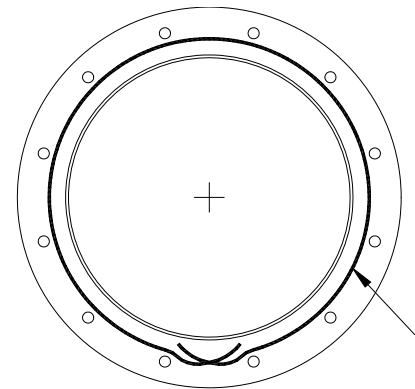

Figure 10: Sealant tape on Vacuum Seat
5. Apply PTFE sealant tape around the inside hole pattern of the vacuum seat [18] (Figure 10). Tape should be at least 1/16" thick. *Note: Other sealants (such as Silicone) can replace the fluoropolymer tape if compatible with tank products.*